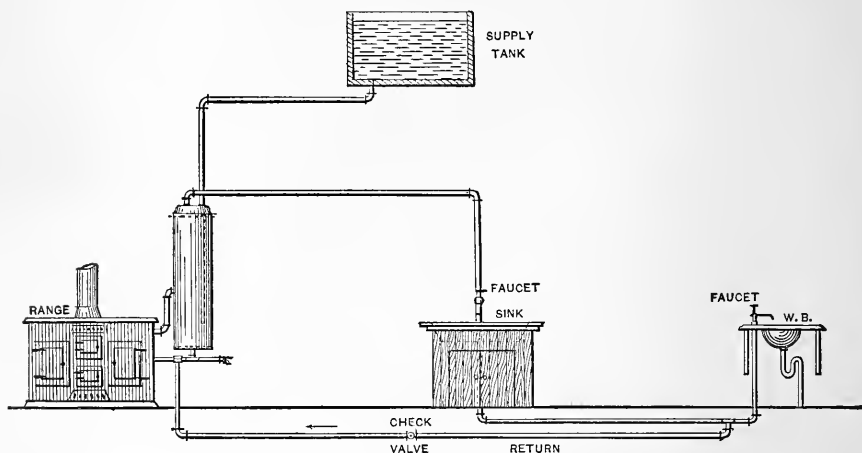
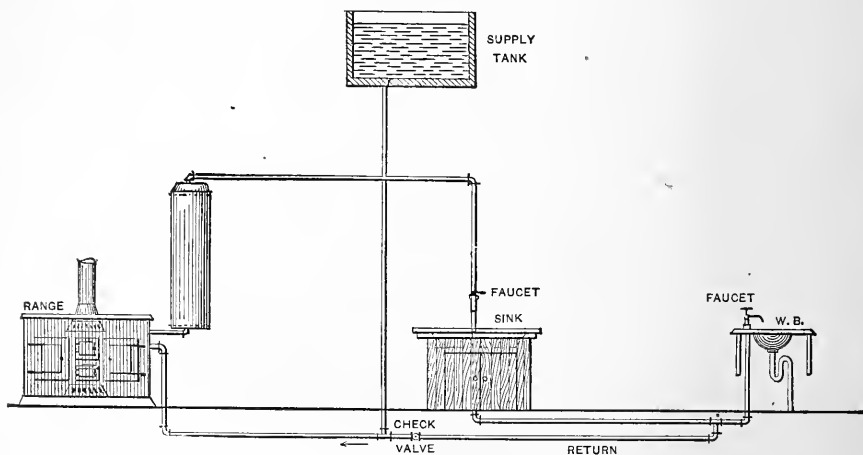

Fig. 1.—The Original Arrangement of Pipes.
Fig. 2.—Arrangement Proposed by "J. M."
*From J. M., Odebolt, Iowa.*—I have a problem in some boiler and range connections, and would be thankful for any information that would lead to a solution of the problem. I inclose drawings of the work as it now is, Fig. 1, and as I think of rearranging it, Fig. 2 being the proposed alteration. I do not wish to change the work unless it will give better results than it does at present. My desire is to be able to draw hot water instantly when the hot faucet at the washstand is opened, instead of having to draw the dead water between the stand and the boiler first. It is to avoid this waste of water that I wish to em-
*Answer.*—The proposed plan shown in Fig. 2 can only be con-
sidered for its novelty and should not be put in practice, as it is open to many objections and would be a very slow heating arrangement. In Fig. 1 it would be quite possible to draw cold water at the wash-